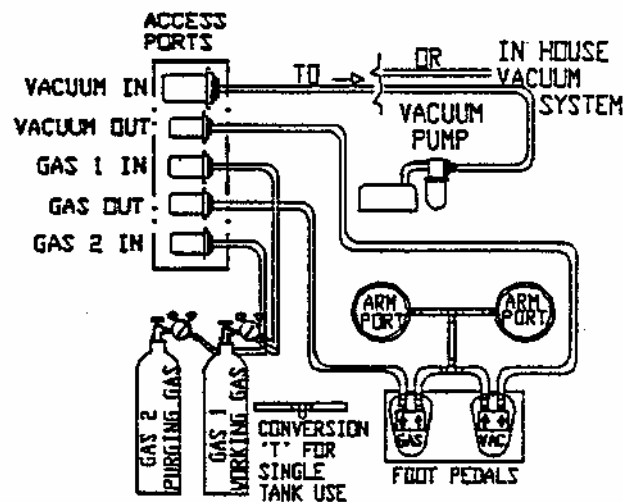

Figure 9. Hose Connections
4.1 Hose ports for the gas and vacuum supplies and foot pedal controls are provided on the top back left side of the control module section. The Bactron models have five access ports. (Older models have four access ports.) Figure 9 shows a typical hose connection for a five port model.